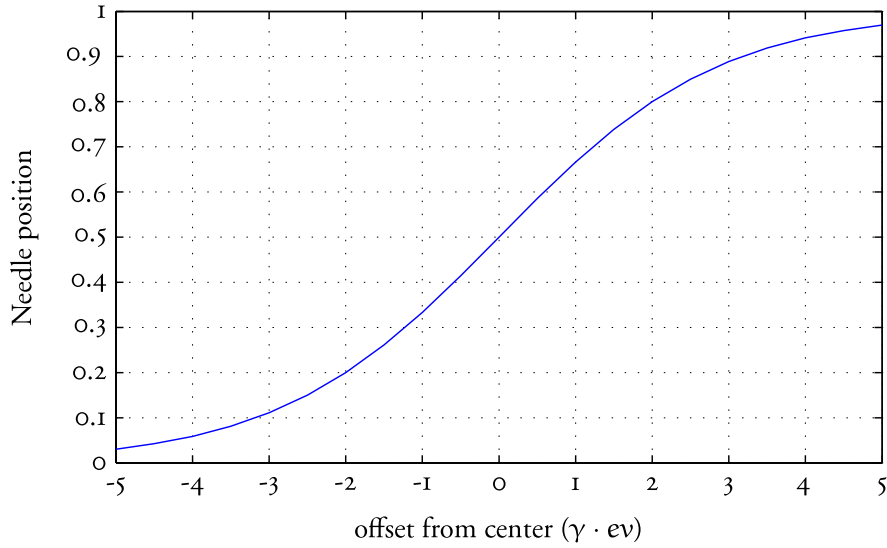

Figure 1: Plot of the light dependant part of equation 1
First, have a look at Figure 1. This is a plot of (effectively) the needle deflection vs. $\gamma \cdot ev$. Let's assume, that we'd take the best fitting straight line, and see, how much does it deviate from the characteristic curve at the worst point. The result can be seen in table
1. The first column is the normalized metering range ($\gamma \cdot \Delta ev$) — effectively the factor, by which LDR resistance will change across the metering range, or how wide a chunk from Figure 1 we cut from the middle. The second column shows, by how much will the effective scale deviate from an ideal straight.